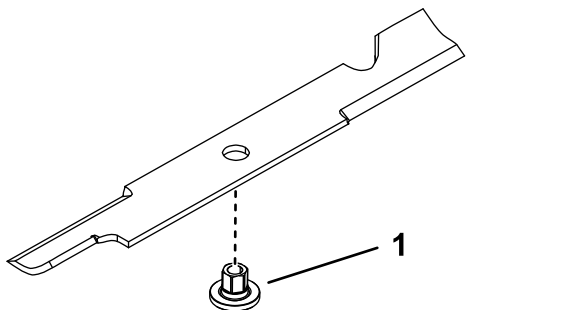

Figure 76
1. Install the bushing through the blade with the bushing flange on the bottom (grass) side of the blade (Figure 76).